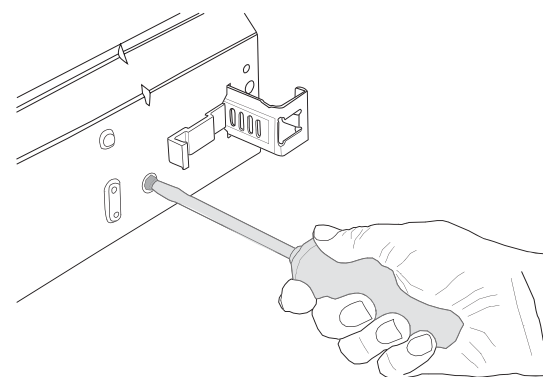

Figure 7.
4. Incline the machine forwards slightly and adjust the rear foot roughly by screwing the adjuster screw on the front clockwise to raise or anticlockwise to lower (see Figure 7). Use a broad-bladed screwdriver or a screwdriver with a hexagonal grip.